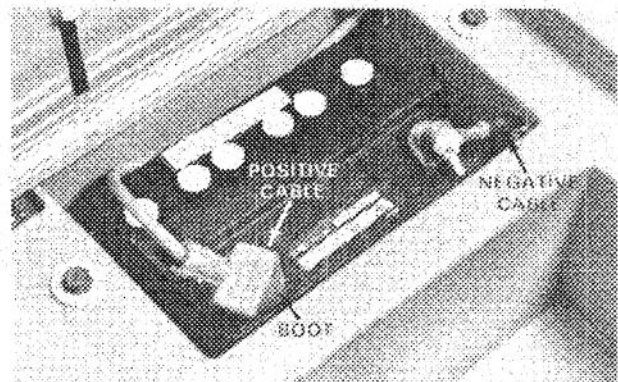

Figure 7
7. Install the positive cable (rubber boot over end) to the positive (+) terminal and the negative cable (black) to the negative (-) terminal of the battery and secure with capscrews and wing nuts. Slide the rubber boot over the positive terminal to prevent possible short-out from occurring (Fig. 7).